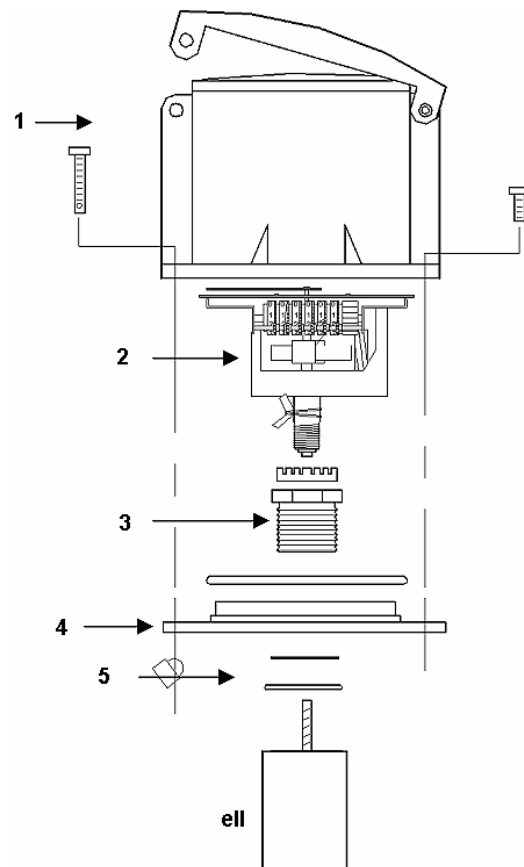

Figure 8
Step 3) Remove the canopy (1), register (2), hex bushing (3), base plate (4), and gaskets (5) from the top end of the ell. (**Figure 8**)
Remove the meter upper components - register, base plate, etc. (Figure 8).